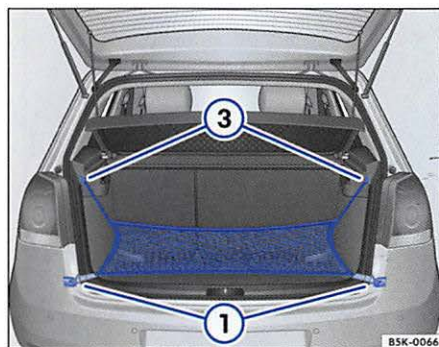

Fig. 93 In the luggage compartment: Tie-down hooks ① and hooks ③ for hanging the luggage net.
- Secure the short luggage net hooks to the tie-down hooks ⇒ fig. 93 ① ⇒ ▲. The luggage net zipper must face upwards.
- Attach the loops to the shopping bag hooks ③.